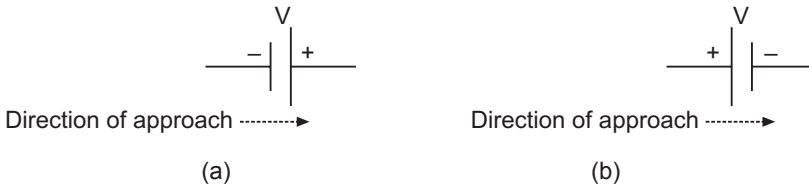

Fig. 1.24
- (i) If we approach from $-ve$ terminal of the voltage source towards the $+ve$ terminal as shown in Fig. 1.24 (a) then there is a rise in potential, which is taken as positive.
- (ii) If we approach from $+ve$ terminal of voltage source towards the $-ve$ terminal as shown in Fig. 1.24(b) then there is a fall in potential, which is taken as negative.